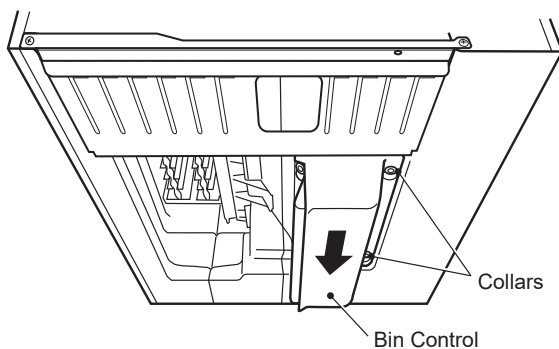

Fig. 6
- 7) While pulling up the bin control lead, hook the bin control on the right side interior wall. Then push the bin control up against the bottom of the unit, and slide to the back until it snaps in place. Make sure the slotted holes at the right side of the bin control are securely placed on the collars at the bottom of the unit. See Fig. 6.